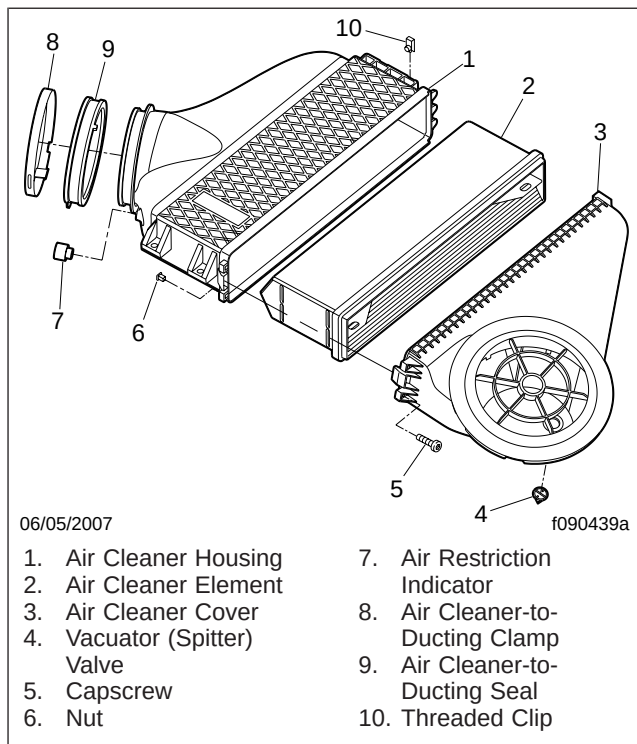

Fig. 1, Air Cleaner Assembly Mounting
2. Loosen the hose clamp that attaches the flexible duct to the air cleaner outlet port, then pull the duct off the port. See Fig. 1.